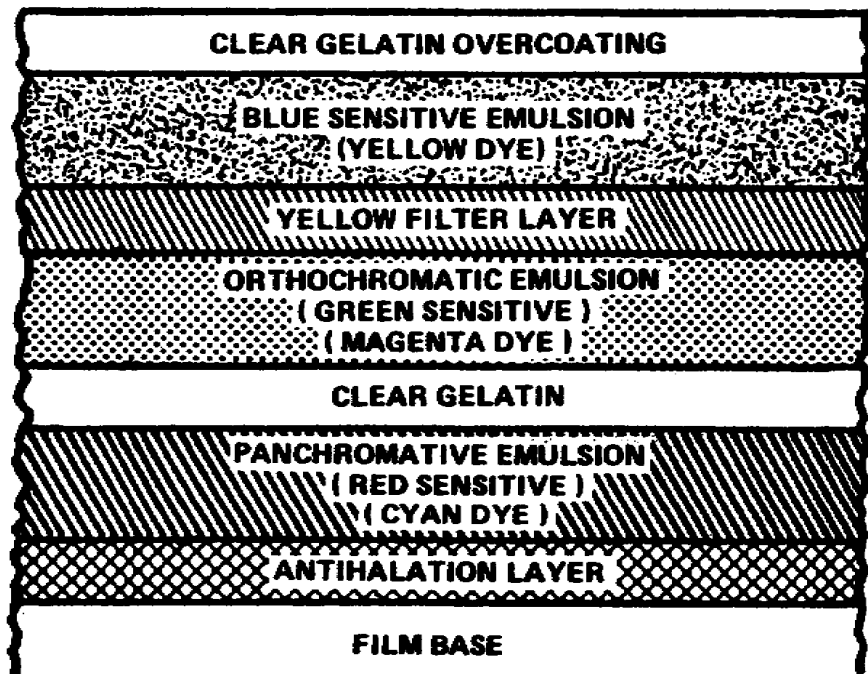

Figure 1-1. Cross section of negative film
2. Figure 1-1 shows a cross section of a typical color film. Starting at the top and working down the diagram, an antiabrasion overcoating protects the film from minor abrasions. Next is the blue-sensitive emulsion layer where the blue record is made and where yellow dye is formed during processing. The next layer consists of a colloidal silver. It acts as a yellow filter to absorb blue light so that only green is recorded in the orthochromatic layer. Magenta dye is formed during the process. Red is recorded in the next layer, which is a panchromatic emulsion. This emulsion is manufactured with a very low sensitivity to green light since the blue light is absorbed by the colloidal silver, only a red record is made. Cyan dye is formed in the panchromatic emulsion layer during processing.